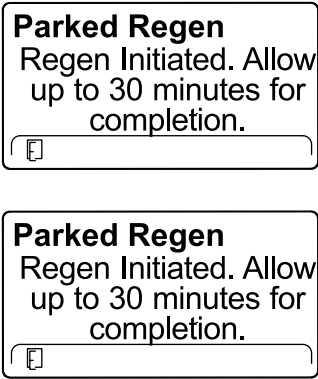

Figure 64
6. The InfoCenter displays the time to complete message (Figure 64).